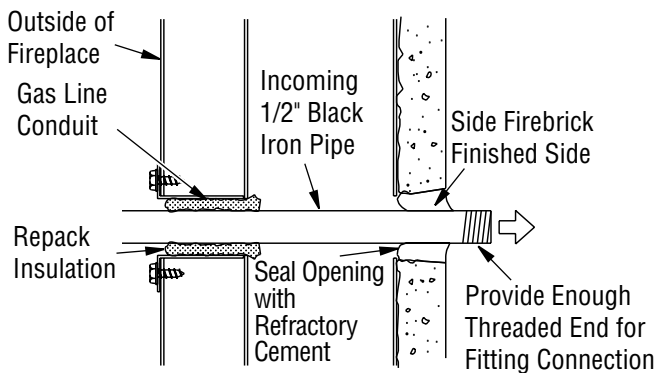

Figure 20 - Gas Line Installation
3. Run a 1/2" black iron gas line into fireplace through rear at gas line conduit sleeve (if using a raised platform, add height). Provide sufficient gas line into fireplace chamber for fitting connection (see Figure 20, page 13).